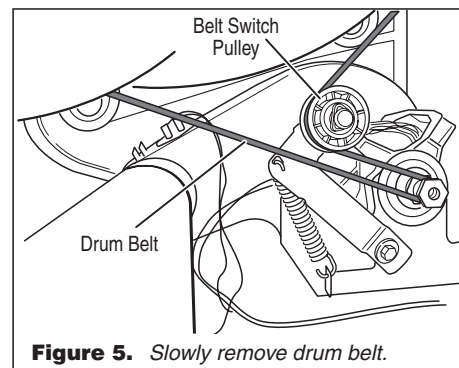

Figure 5. Slowly remove drum belt.
4. Check the belt switch and drive motor. Access the belt switch and drive motor by removing the back panel. See Removing the Back Panel, page 8. Slowly remove the drum belt from the spring-loaded belt switch pulley, gently letting the belt switch pulley down. See figure 5.